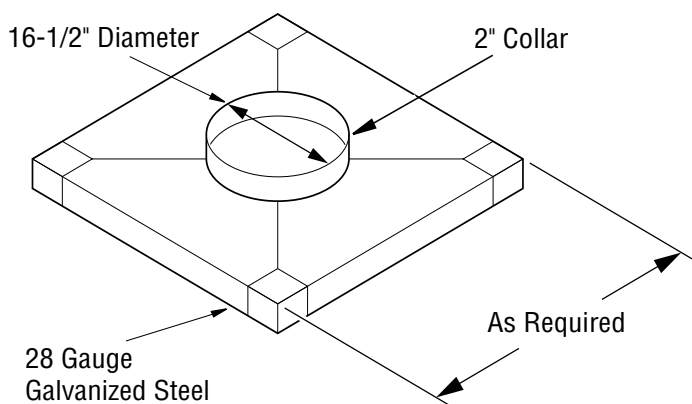

Figure 22 - Constructing Chase Top Flashing
- Fabricate a flashing having a 16-1/2" diameter hole centered over chimney end with a 2" collar around hole (see Figure 22). Attach noncombustible spacers at each corner and place flashing over chase.